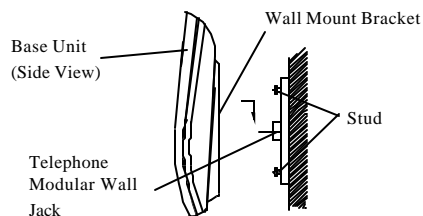

Figure 5
5. Align the wall mounting slot with the studs located on the modular wall plate and slide the base down to lock in place. See figure 5 below.